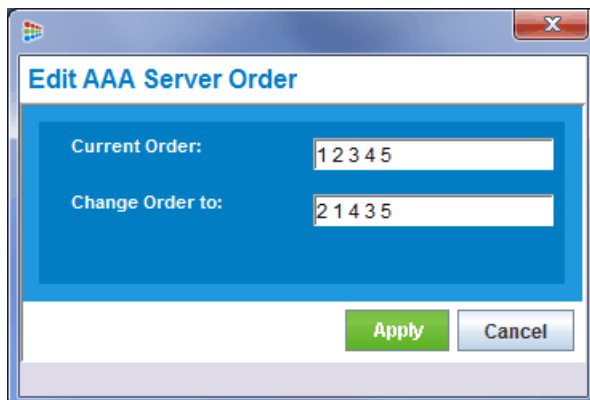

Figure 53. Edit AAA Server Order - modified
3. In the **Change Order to** field, enter the new order of the AAA servers. Figure 53 shows an example: